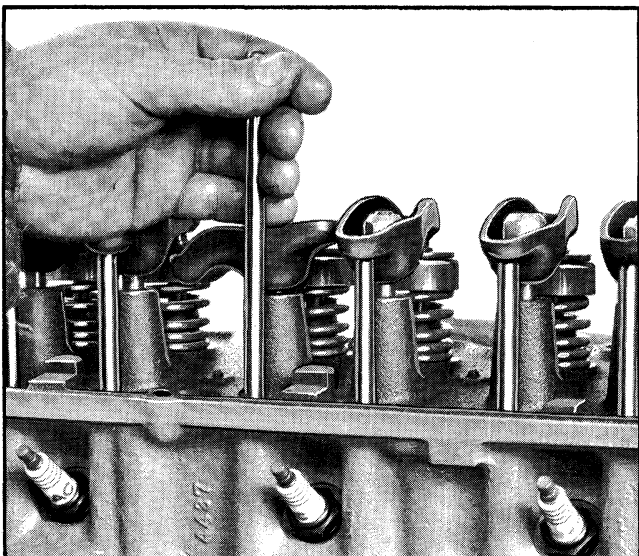

Fig. 6-19 Removing Push Rod
3. Remove push rod (Fig. 6-19) and store so that each push rod may be installed in original location.